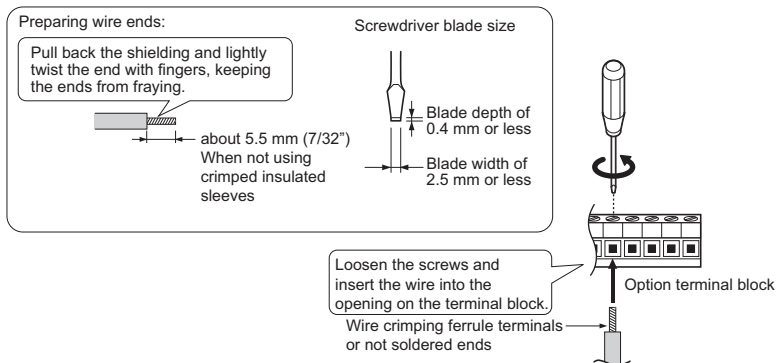

Figure 15 Connect Cable Wiring
- Wire the customer-supplied digital input signal to the terminal blocks on the option according to Figure 15. Refer to Figure 17 for the DI-A3 Option connection diagram. Refer to Table 5 for a detailed description of the option terminal functions.